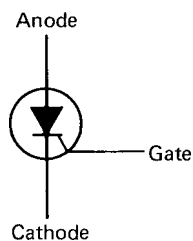

Figure 11-7 Symbol used for representing an SCR in a circuit.
An SCR conducts current in a forward direction only. The symbol for an SCR is shown in Fig. 11-7. Current always flows through an SCR from the cathode (C) to the anode (A). The illustration indicates that the SCR also has a gate (G).